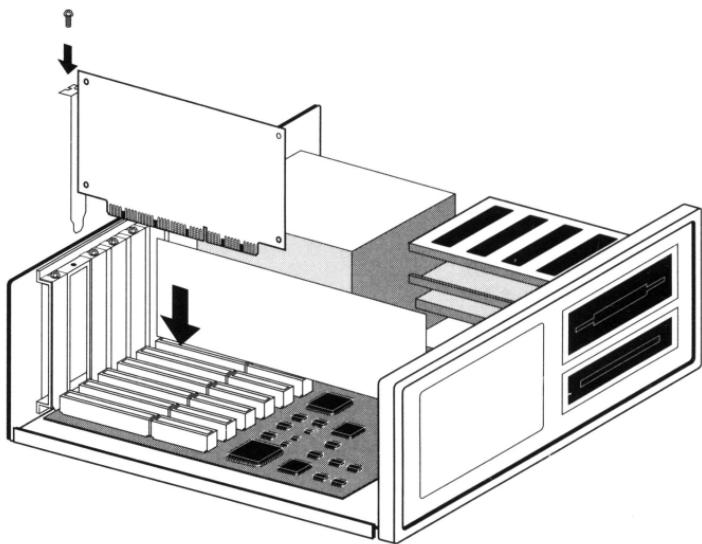

Figure 1-4. Inserting the Adapter
4. Insert the adapter into the expansion slot and secure it with the screw, as shown in Figure 1-4.